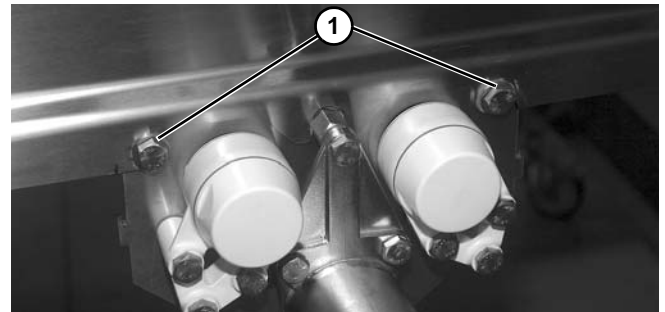

Figure 113
2. If necessary, loosen the center drive fastening screws (**Figure 113, item 1**) on the side of the center drive that requires adjustment.